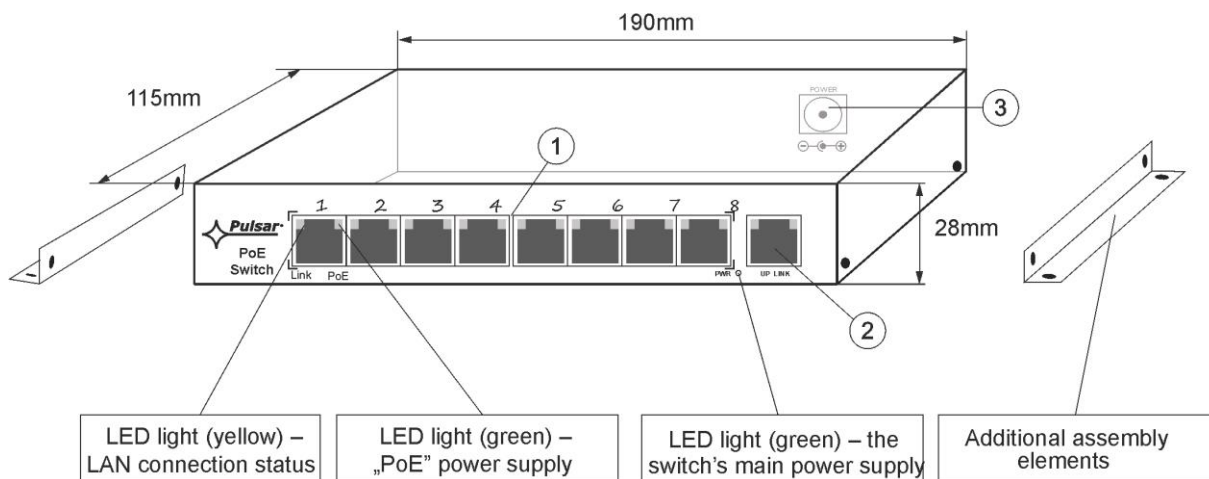

Fig. 3. The view of the switch.
**Table 2. (See Fig.3)**
Component No (Fig. 3)	Description